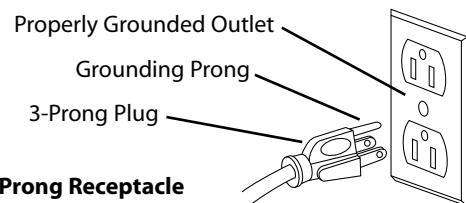

Figure 5 – 3-Prong Receptacle
Refer to Figures 5, 6 and 7.
- This tool is equipped with an approved 3-conductor cord rated at 300V and a 3-prong grounding type plug (See Figure 5) for your protection against shock hazards.
- Grounding plug should be plugged directly into a properly installed and grounded 3-prong grounding-type receptacle, as shown (Figure 5).